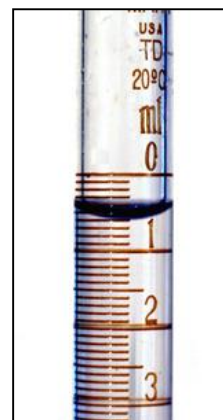

Figure 8 – **initial volume**
1. What is the smallest scale increment on the buret shown in figure 8?
3. What is the **initial volume reading** in the buret shown in figure 8? (remember to read the buret from the top down)
5. What is the total volume that has been added between figures 8 and 9? To how many decimal places should you record your answer?